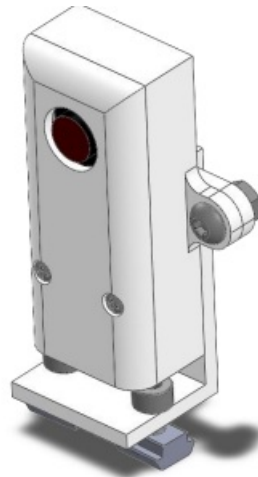

Fig. 3 Camera Module which can be installed on the T-slot FE facing the front.
- **Module 2:** Camera Module. The Camera module contained in a small box has a camera in it. The module can be installed anywhere on the TFE with the provided fastening parts. We recommend installing the module in the front of the cart as shown in Fig. 3.